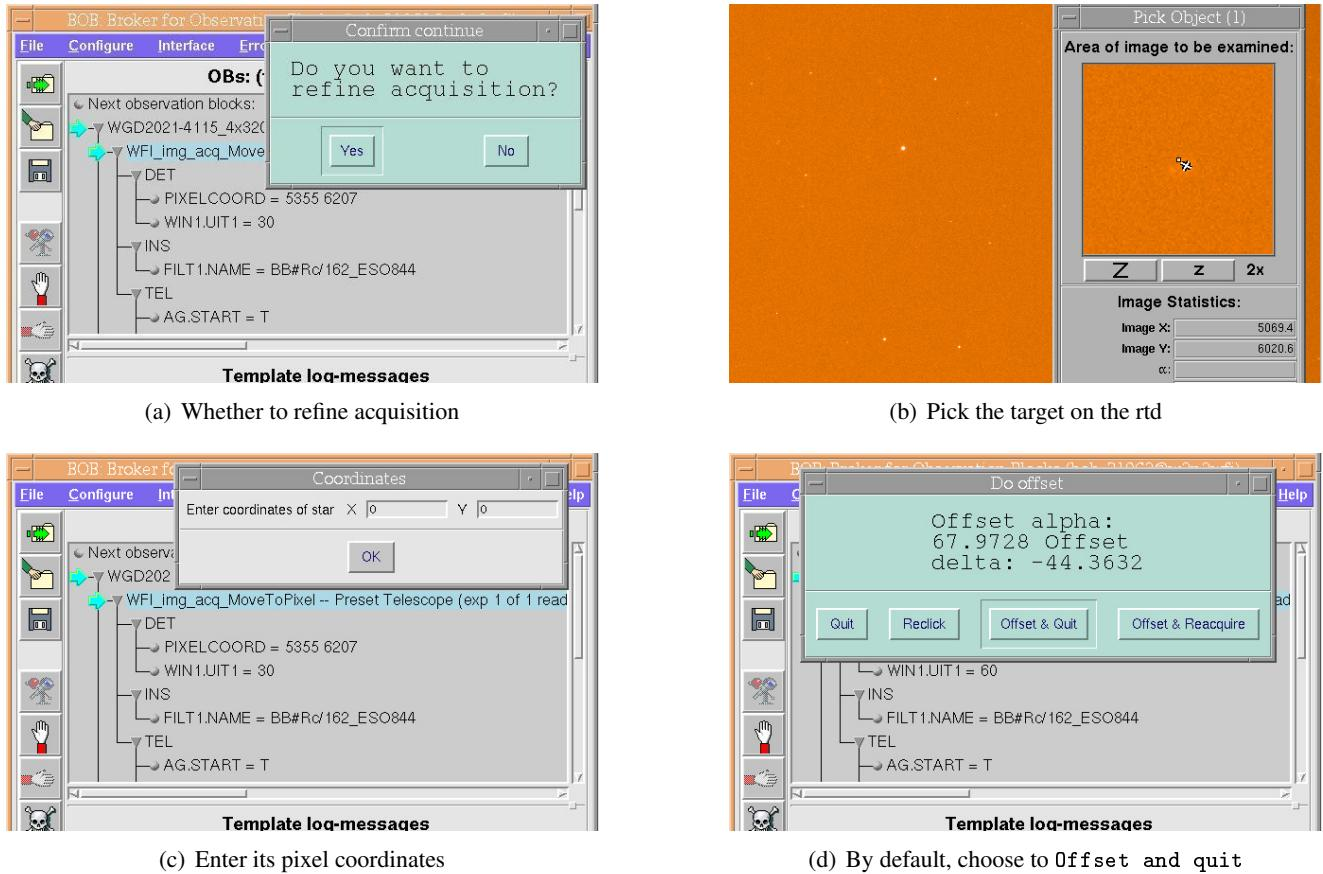

Figure 6.1: Refining the WFI acquisition for the `WFI_img_acq_MoveToPixel` template.
- B. Accept or decline refining by answering the pop-up Confirm continue (Fig. 6.1(a), p. 54)
- C. Pick target (Fig. 6.1(b), p. 54)
- D. Enter coordinates on pop-up Coordinates (Fig. 6.1(c), p. 54)
- F. Examine the offset proposition on pop-up Do offset (Fig. 6.1(d), p. 54)
- G. Answer pop-up Do offset (Fig. 6.1(d), p. 54)